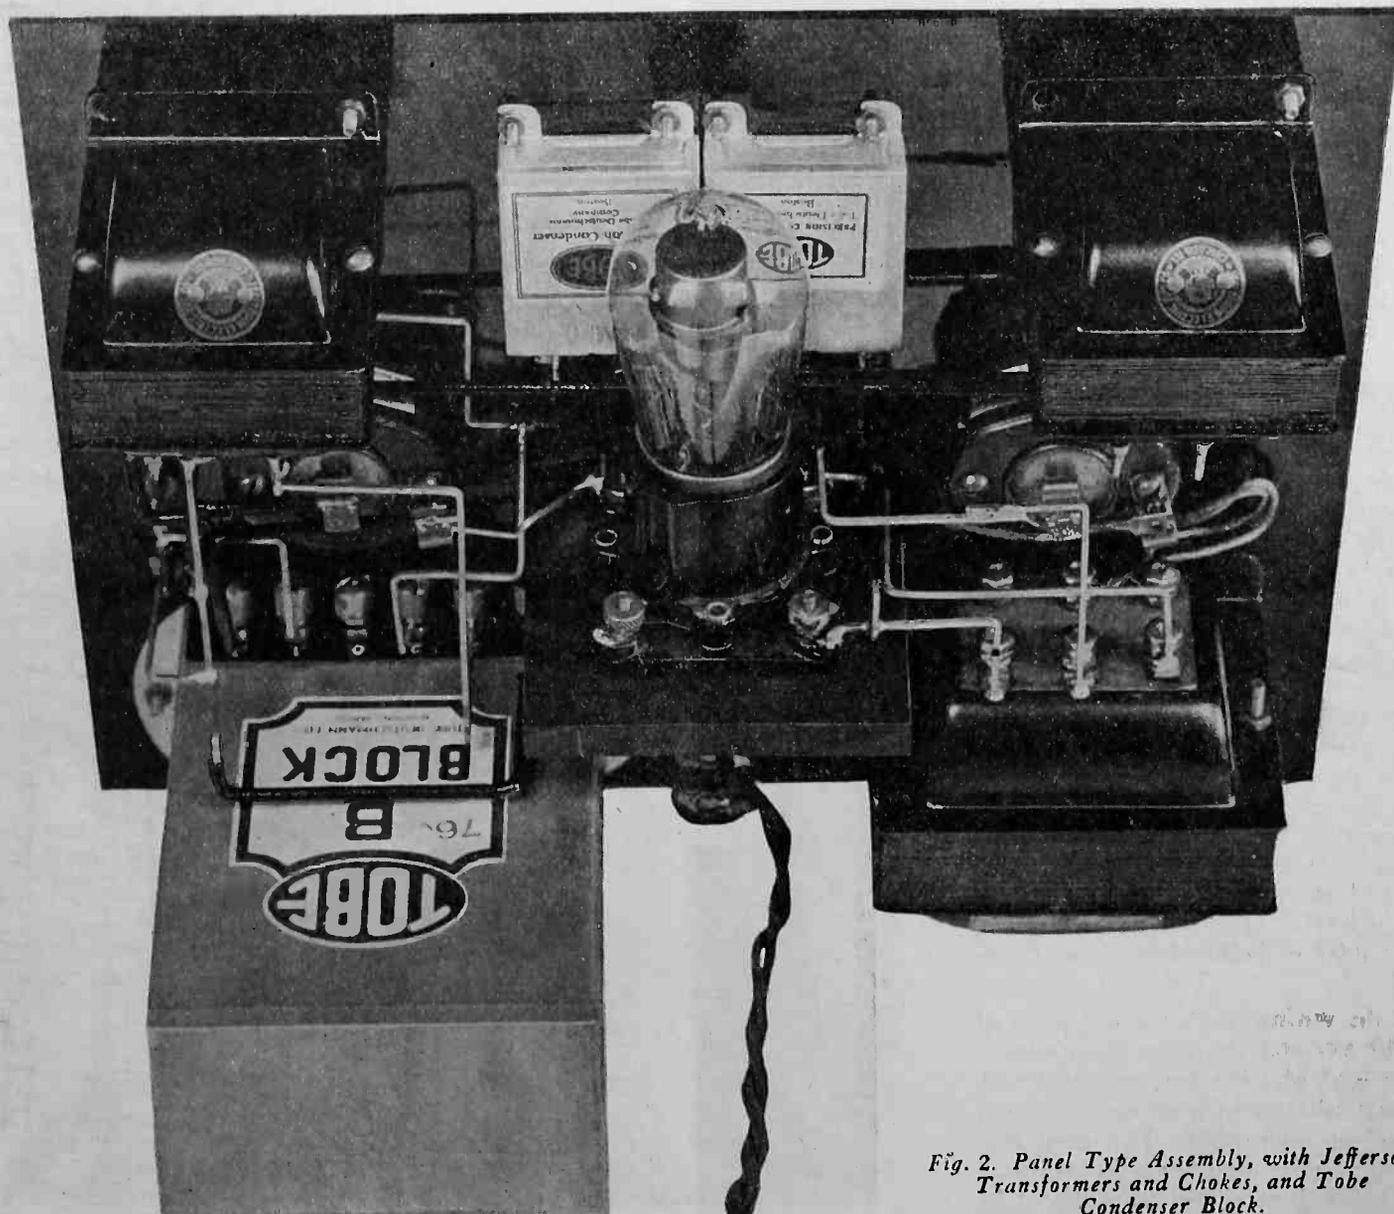

Fig. 2. Panel Type Assembly, with Jefferson Transformers and Chokes, and Tobé Condenser Block.
**A**MUCH neater and more convenient assembly may be made by mounting all of the apparatus on a panel as shown in Fig. 2. This can be placed vertically in the battery compartment of the average radio table so that all controls are easily accessible. Or the panel may be placed in a separate cabinet.